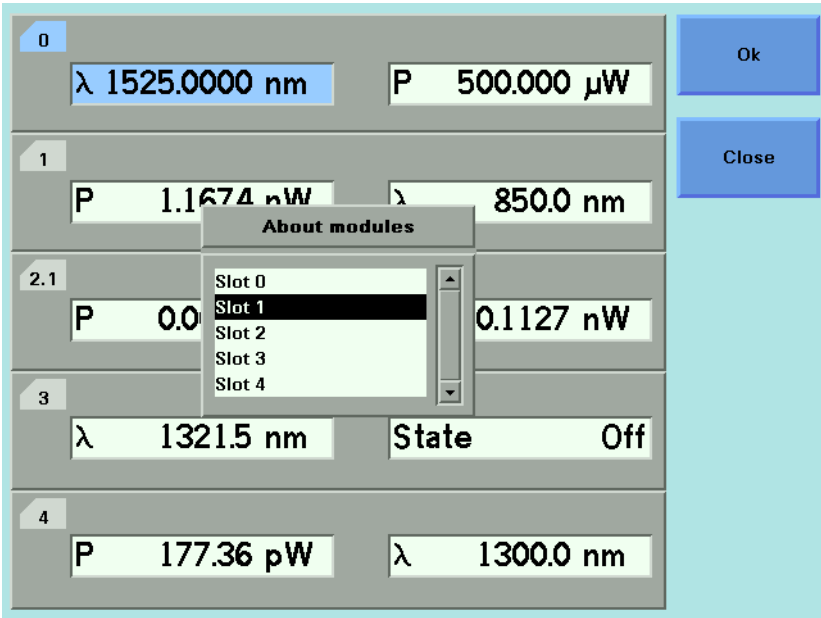

Figure 52 Slots with Installed Modules
- 2 Move to the <*About Modules*> menu option and press *Enter*. You see a box displaying the slots which have installed modules, see Figure 52.
- 5 Press [Close] to return to the menu in Figure 52 on page 92.